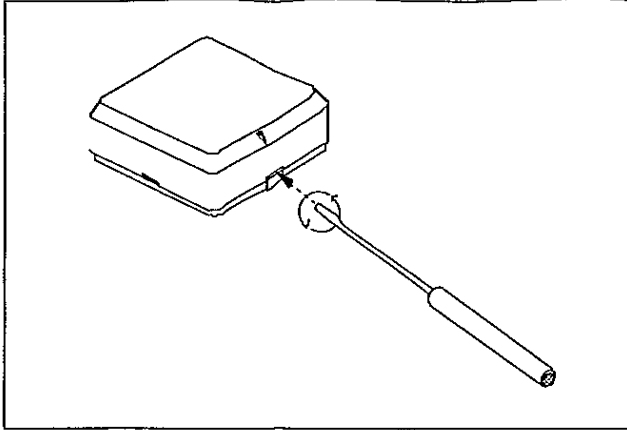

Figure 1
1. Remove the cover by inserting a small screwdriver into any of the four slots in the lower part of the cover and twisting (See Figure 1).